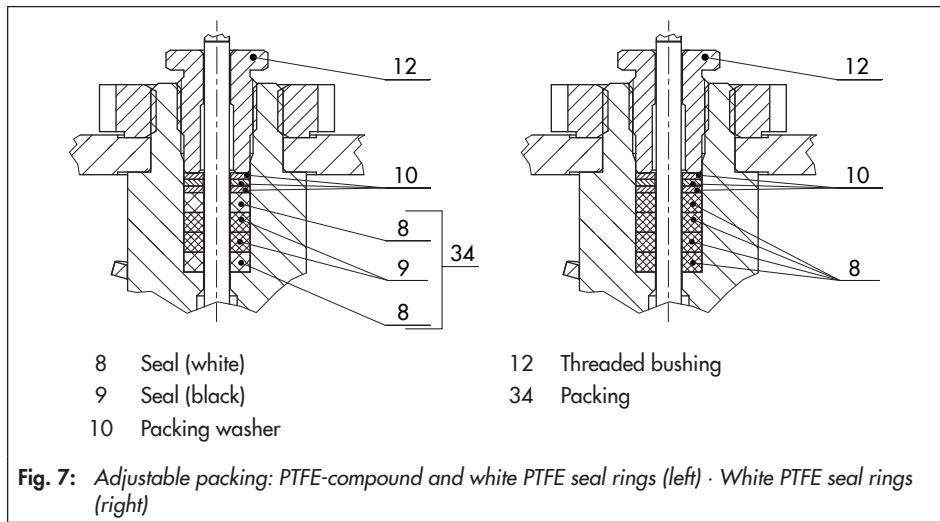

Fig. 7: Adjustable packing: PTFE-compound and white PTFE seal rings (left) · White PTFE seal rings (right)
2. Loosen the slotted nut (11) at the valve. Remove the yoke (13) from the intermediate piece (4).
3. Unscrew hex nuts (20) and remove the stem connector parts.
4. Unscrew the threaded bushing (12).
8. Carefully slide the packing parts over the plug stem into the packing chamber using a suitable tool. Observe the proper sequence (see Fig. 7).
9. Screw in the threaded bushing (12) and tighten it. Observe tightening torques.